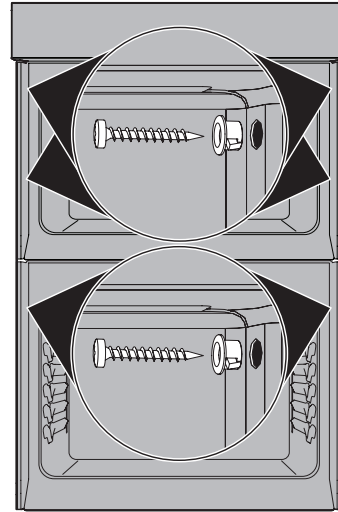

Figure 7: Anti-tip screw locations
A. The mounting holes in the side trims may be used as a template to locate the appliance mounting screw holes (see Figure 7).